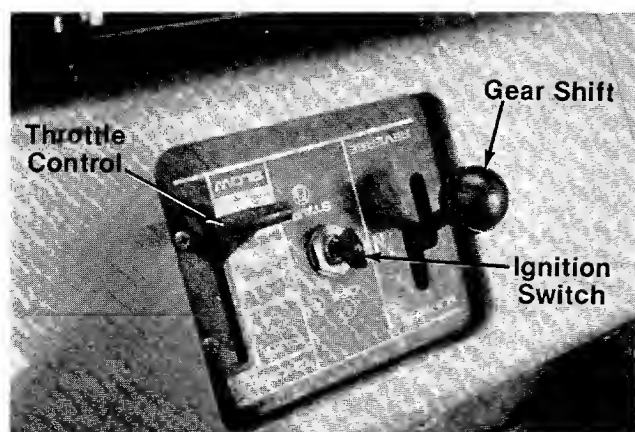

FIGURE 17.
The throttle control is used to regulate the engine speed and choke the engine. The engine should be operated from 3/4 to full throttle when operating the cutting deck. See figure 17.
Electric Start Model—The key must be turned to the "START" position to start the engine. After the engine is running, let the key return to the "ON" position. Turn the key to the "OFF" position to stop the engine. Remove the key when the rider is not in use. See figure 17.
The shift lever is located on the left hand side of the console and has three positions, "FORWARD," "NEUTRAL" and "REVERSE." See figure 17. The clutch-brake pedal must be depressed and the riding mower must not be moving when shifting gears. Do not force the shift lever. Release the clutch-brake pedal slightly to line up the shifting collar in the transmission. Then try to shift gears.
b. **Electric Start Model.** Turn the ignition key to the "START" position. As soon as the engine starts, let the key return to the "ON" position. See figure 17.